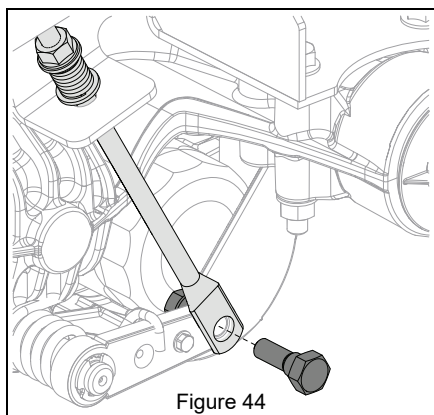

Figure 44
6. Remove hardware securing brake linkages to transaxle brake arms. See Figure 44.
12. Secure brake linkages to the transaxle brake arms with their original hardware. See Figure 44.